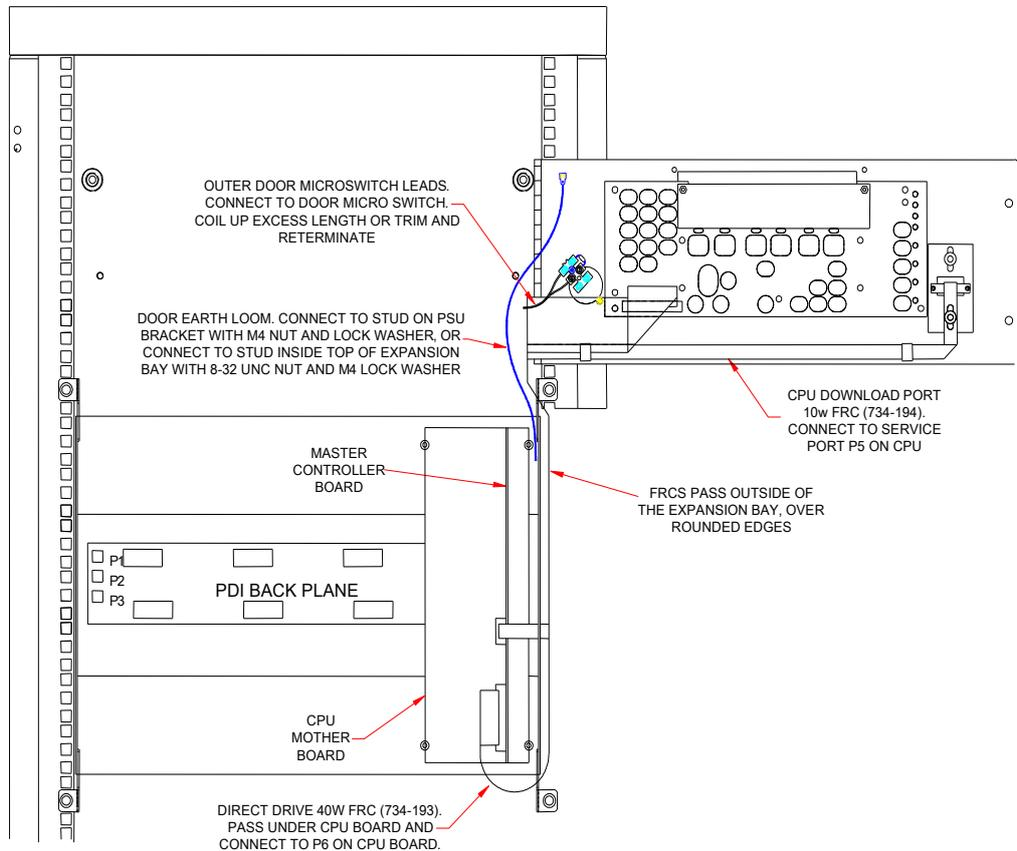

Figure 14 – Fitting replacement 4U LCD door to 4100ES cabinet
- Fit the replacement door. Connect the earth looms and FRCs and door switch loom as described in the notes in Figure 14 above.